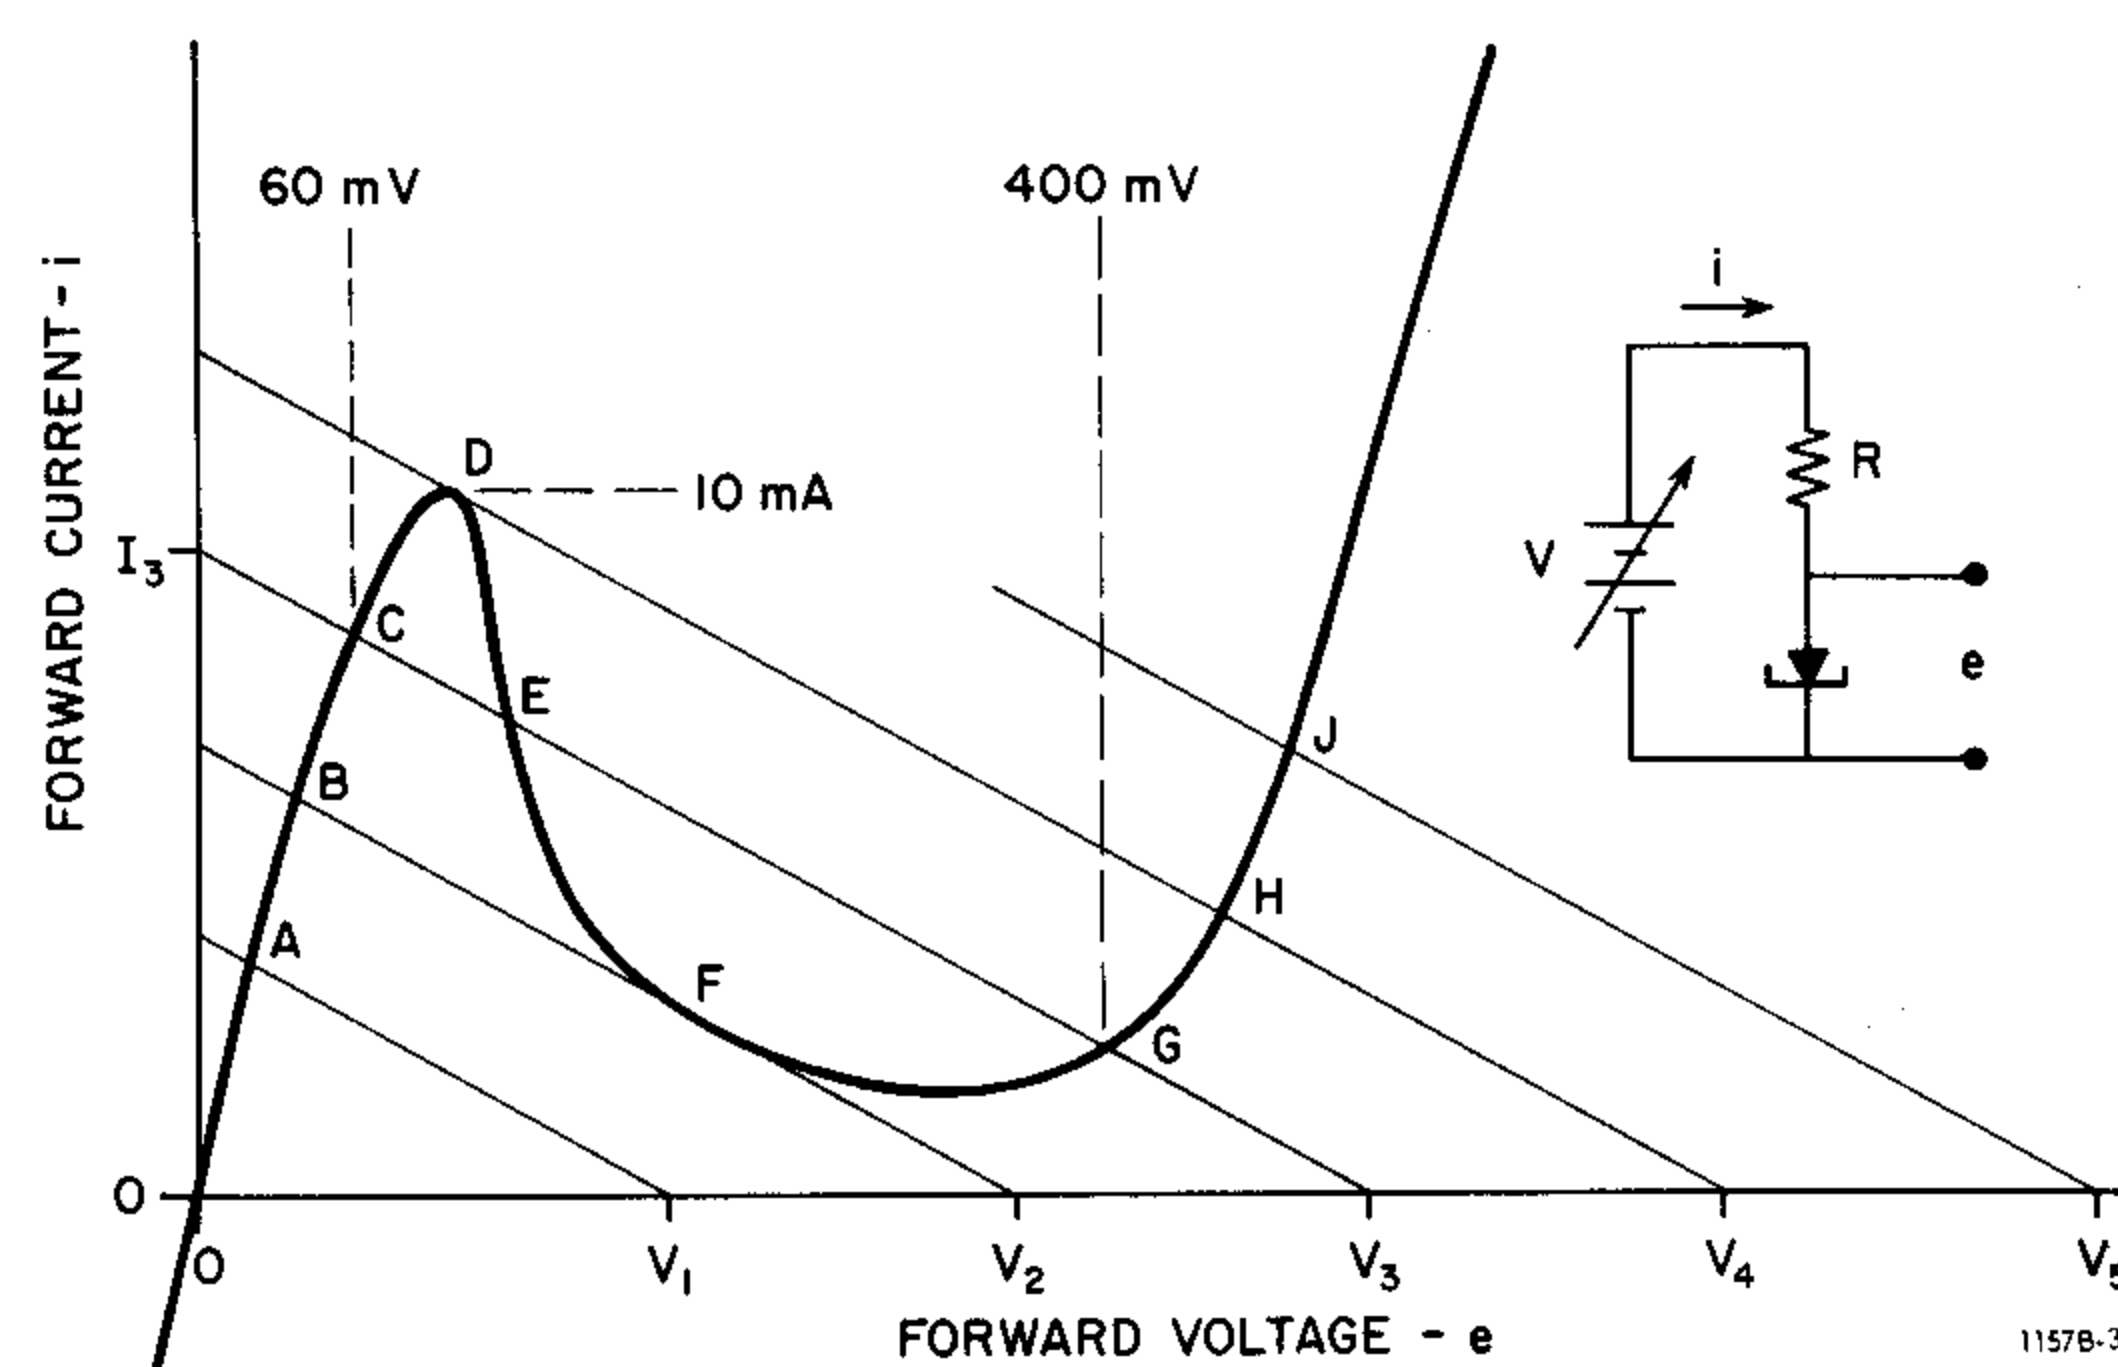

Figure 4-2. Tunnel-diode characteristics.
4.3.3 Trigger – C (Figures 4-2, 6-7).
The trigger generator processes the incoming signal to supply a negative pulse to the binary divider. These circuits incorporate tunnel diodes, whose general characteristics are shown in Figure 4-2.
Tunnel diode C-CR1 is driven far enough to change state and reverse every cycle of the input signal. (There must not be enough noise or harmonic distortion to cause extraneous reversals.) With series resistor C-R1 to absorb the voltage peaks, the signal at C-Q1 base is therefore nearly square. The rise D-H (Figure 4-2) is particularly sharp; the fall is rounded at H-F before the sharp drop F-B.
The negative pulse applied to this bridge drops whichever diode was high into the low-voltage state. Then both tunnel diodes cycle momentarily below point B (Figure 4-2). After the pulse, whichever diode was low is the first to reach point D and switches to the high-voltage state, "taking turns." Memory is provided by inductor C-L1. (Continuing the above supposition, enough inductor current is still flowing during and shortly after the pulse to give C-CR4 more current than C-CR3.)